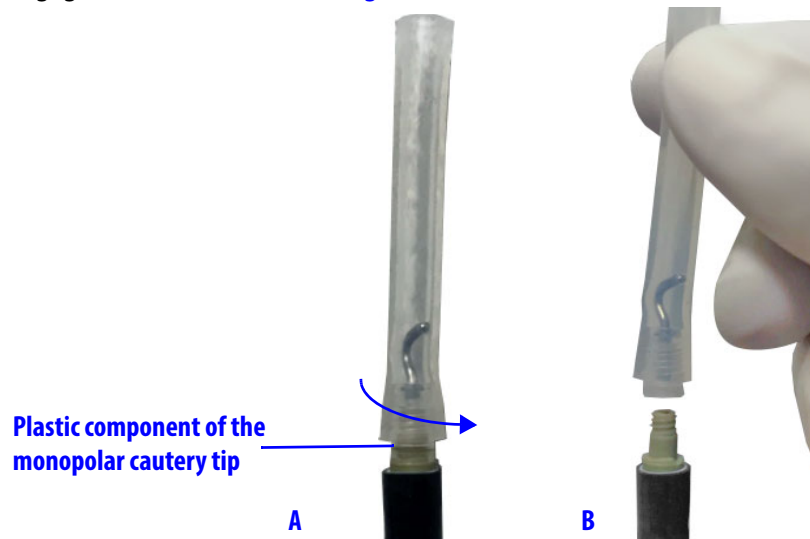

Figure 6.8 Rotate the plastic component of the monopolar cautery tip until disengaged from instrument (A and B)
2. Stabilize the instrument joints. Hold the installation tool around the plastic component of the monopolar cautery tip and rotate counter-clockwise until the monopolar cautery tip disengages from the instrument (Figure 6.8 A and B).